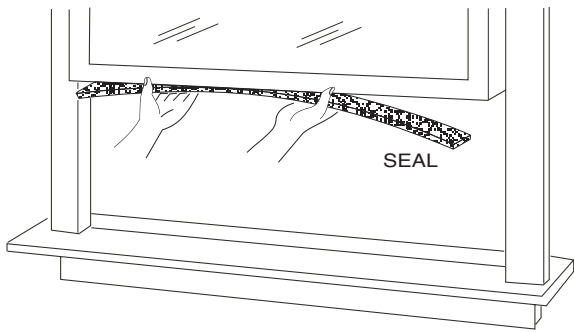

FIGURE 4 — FOAM SEAL INSTALLATION
6. A piece of thin foam sealing is provided. Cut piece to fit across the bottom of the window sash. See Fig. 4. After the foam seal has been cut, remove the peel-off backing and stick to bottom of window.